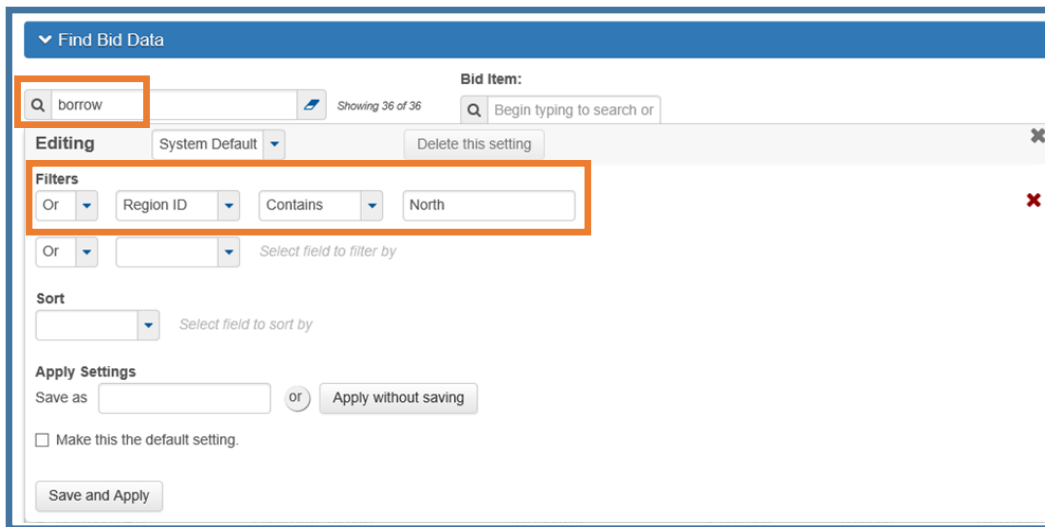

Figure 3.34
4. Use a combination of the first three to really narrow down search results (*Figure 3.34*). See the Search, Sort and Filter section of chapter 2 for more information on building filters.